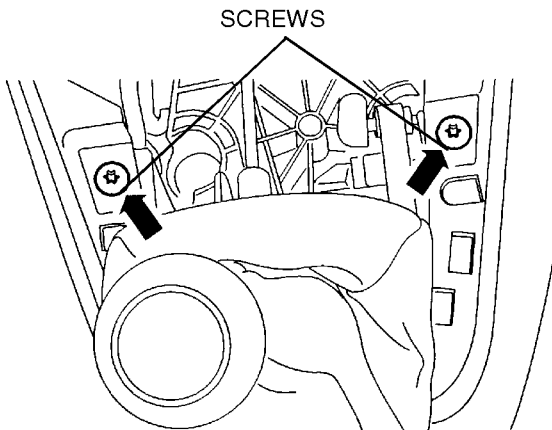

FIGURE 6
- E. Remove the floor console center retaining screws (refer to Figure 6).